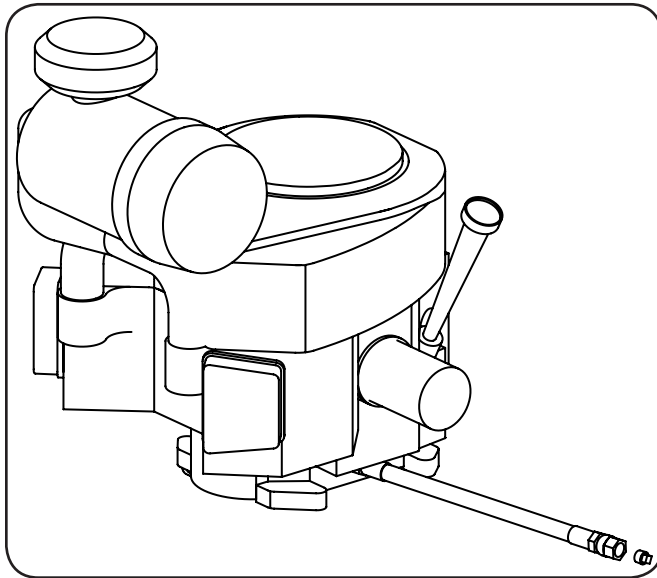

Figure 6-1
2. Locate the oil drain hose on the engine. See Fig. 6-1.
4. While holding the free end of the oil drain hose over the oil collection container, unscrew the square-head hose plug from the end of the hose. See Fig. 6-1. Drain the engine oil into the collection container.